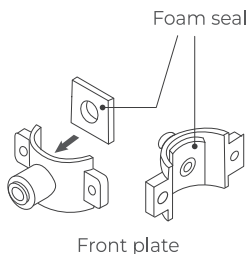

Figure 8
- Stick the foam seal on the front plate of the drain saddle. Ensure that the hole of the foam seal is aligned with the hole of the front plate (Figure 8).